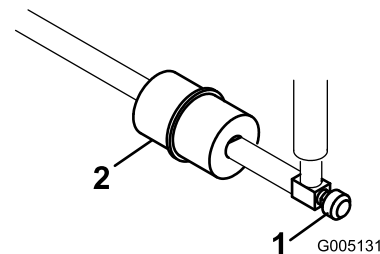

Figure 52
An in-line filter is incorporated into the fuel line between the fuel tank and carburetor (Figure 52). Replace the filter every 800 hours or sooner if the fuel flow is restricted. Be sure the arrow on the filter is pointing away from the fuel tank.
- Close the fuel shut off valve, loosen the hose clamp on the carburetor side of filter, and remove the fuel line from the filter (Figure 52).
- Place a drain pan under the filter, loosen the remaining hose clamp and remove the filter (Figure 52).